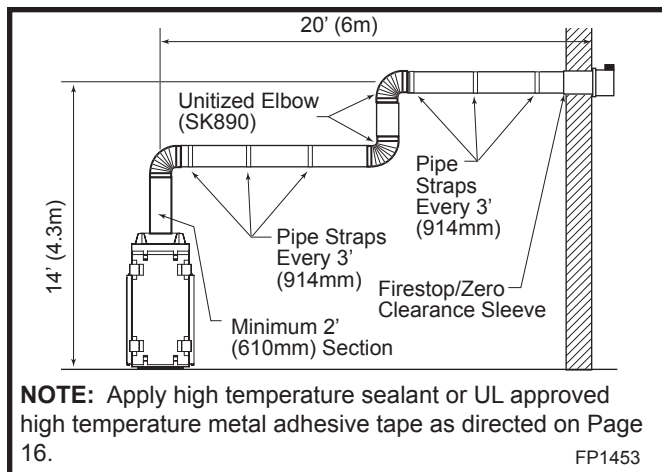

Fig. 14 Support straps for horizontal runs.
The vent must rise vertically a minimum of 24" (610 mm) off the top of the unit, before the first elbow. The horizontal run may extend up to 20' (6 m) and include a vertical rise of up to 40' (12 m). (Fig. 14) Horizontal termination must also meet the criteria shown in Figures 10 & 11.
A vertical vent system must terminate no less than 12' (3.66 m) and no more than 40' (12 m) above the appliance flue collar. A 2' (610 mm) vertical section must be installed before any offset. A maximum of 20' (6.1 m) horizontal and three (3) 90° elbows may be installed with a minimum of 12' (3.66 m) vertical section above the flue collar of the unit. Refer to Page 18, Figure 14 for more information.